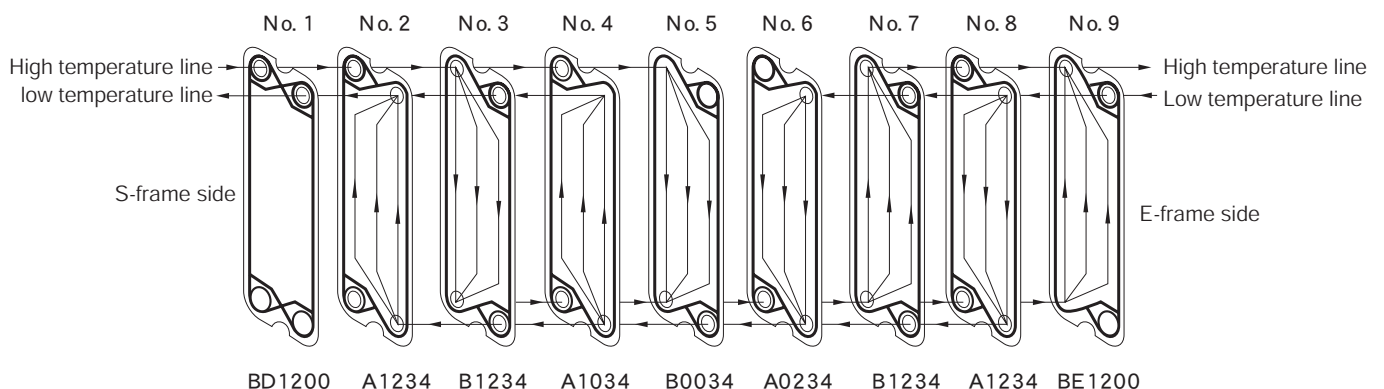
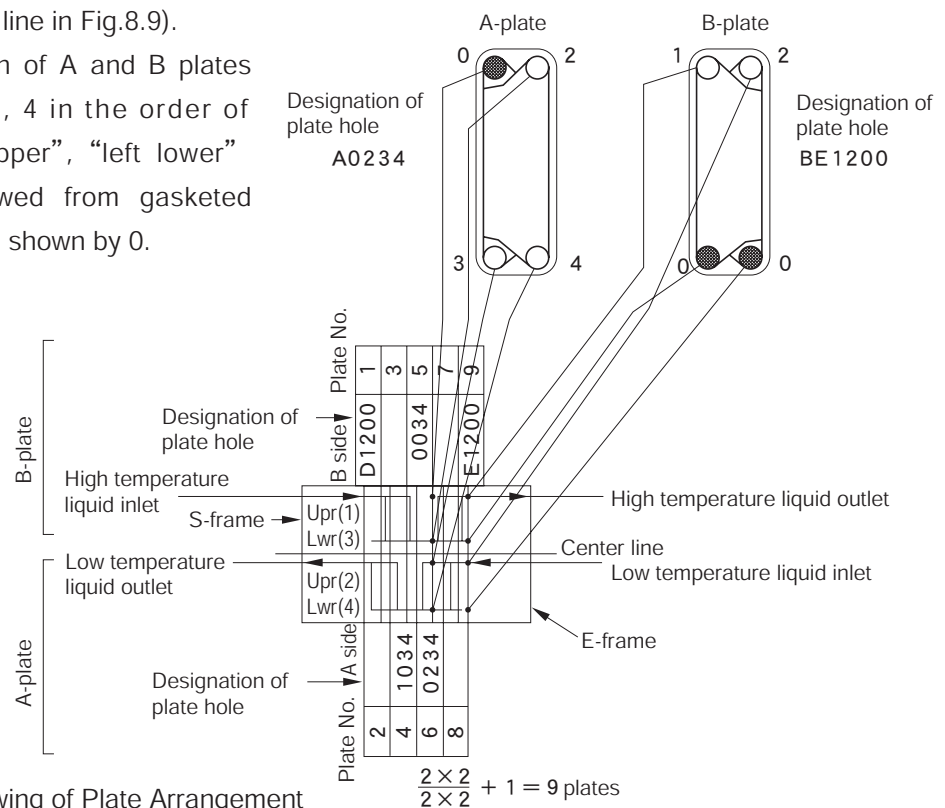

Fig.8.8 Example of flow pattern in plate channel
Fig.8.9 Drawing of Plate Arrangement
Both fluids never mix together even in the case of fluid leak, due to such a structure wherein each fluid flows through different gaskets on each plate surface. An example of fluid flow pattern is shown in Fig.8.8. Wherein high temperature flows in from the S-frame inlet and outflows to the E-frame outlet. When flowing through the plate channel from the left upper port holes of No.3 and No.5 plates, the fluid is branched into two parallel flows and it is repeated twice. On the other hand, low temperature flows in through the right upper port hole of No.9 plate and further flows into No.8 and No.6, diverted into two parallel flows and it is repeated twice respectively.
The Drawing of Plate Arrangement shows the plate arrangement. For example, Fig.8.8 can be shown as Fig.8.9. (Please refer to individual instruction manual for YX, GX and WX type.)
- (1) Plates are shown by vertical line within the rectangular area in Fig.8.9, wherein the gasketed surface of plate is always in face to the S-frame side.
- (2) The “designation of plate hole” is entered to the “hole designation column” which is formed by extension of a vertical line indicating the adjacent plate.
- (3) The description of A-plate is entered to the lower area from the center line, while that of B-plate is entered to the upper area from the center line.
- (4) The plate hole locates at an intersecting point of a vertical line indicating the plate and a line indicating the channel. And fluid flowing over the B-plate surface always flows through the left side hole of the plate (upper side from the center line in Fig.8.9), while fluid flowing over the A-plate surface always flows through the right side hole of the plate (lower side from the center line in Fig.8.9).
- (5) The each hole position of A and B plates are shown by 1, 2, 3, 4 in the order of “left upper”, “right upper”, “left lower” and “right lower” viewed from gasketed side. And “no hole” is shown by 0.
- (6) Plate hole position is determined for an optional passage plan by defining the holes as stated above. And the designation of hole 1, 2, 3, and 4 is defined. However, in case of the plate with 4 holes (i.e.1.2.3.4), designation of plate hole is omitted and shown as blank.
- (7) Plates (No.1, No.9 in Fig.8.8) adjacent to the S-frame and E-frame are slightly different from other plates, their designation of plate hole is shown as adding D an E symbols thereto.